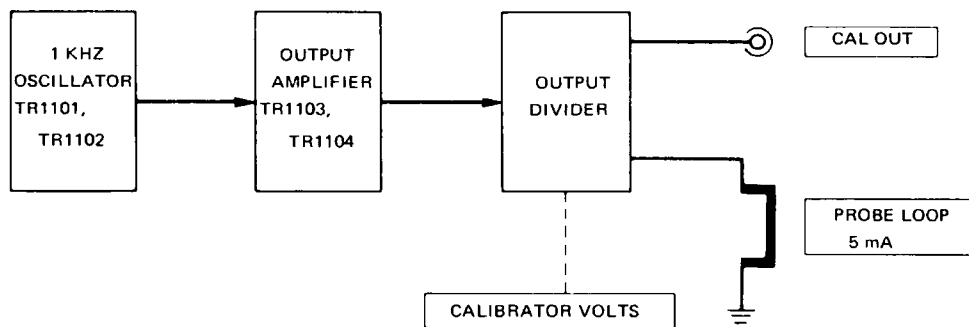

Figure 3-30 Calibrator Block Diagram
p. CALIBRATOR (Schematic 15). Figure 3-30 shows a block diagram of the Calibrator (calibration voltage and current oscillator) which generates square wave voltage and current of highly accurate frequency and amplitude.